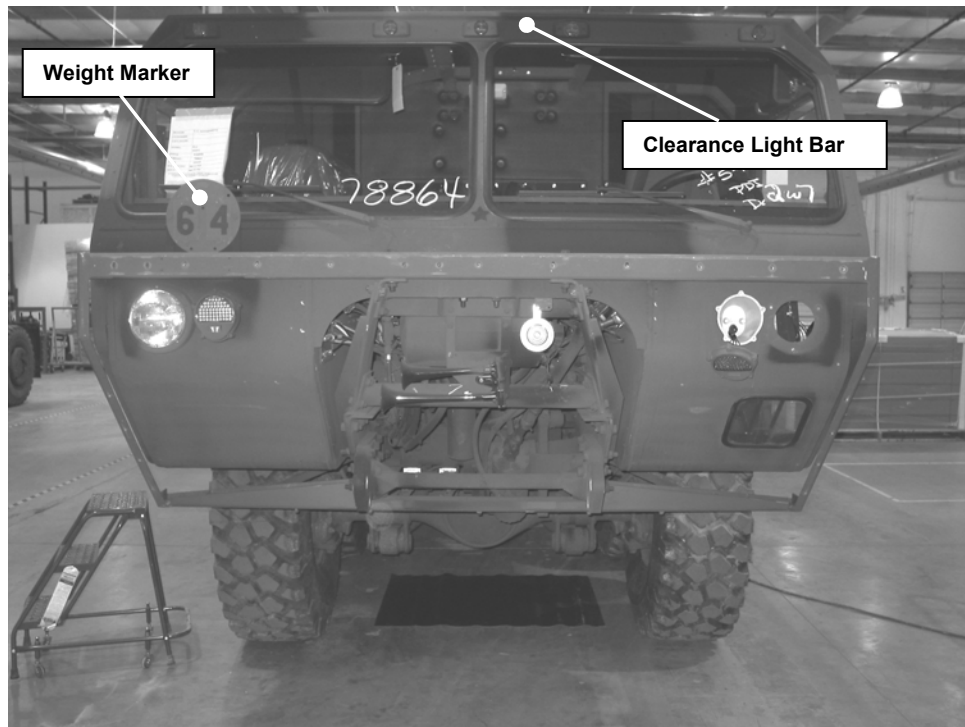
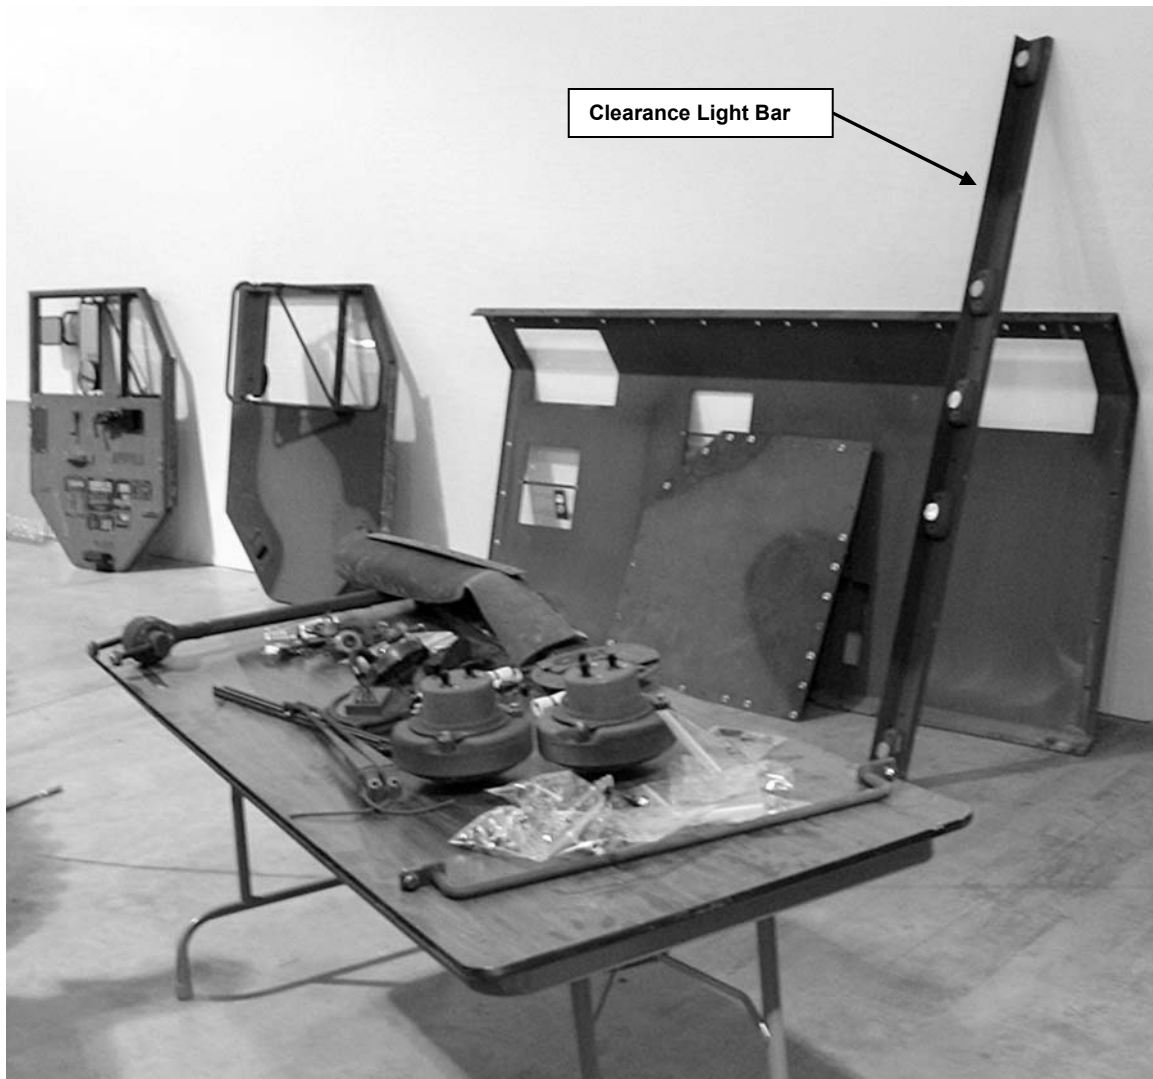

Figure 6. Vehicle with Brush Guard removed.
Figure 14. All of the items removed from the vehicle before installing the CPK.
- j) Remove the Weight Marker (see Figure 6). This is done by removing the two bolts connecting it to the back of the Upper Brush Guard rail structure.
- k) Remove the Clearance Light Bar located on the front of the cab just under the roof line (see Figure 6 and Figure 14). From the inside of the cab, cut the Cab Top Clearance Light Bar wire lead approximately 6 in. from the exit hole. Install a closed-end wire connector on the end of the wire (inside the cab), fold the wire inward, and secure it in place with a wire tie. Remove the six screws holding the Cab Top Clearance Light Bar to the cab roof overhang at the top of the windshield, and remove the Cab Top Clearance Light Bar from the vehicle.
Figure 14 shows all of the components and hardware that should be removed from the vehicle.